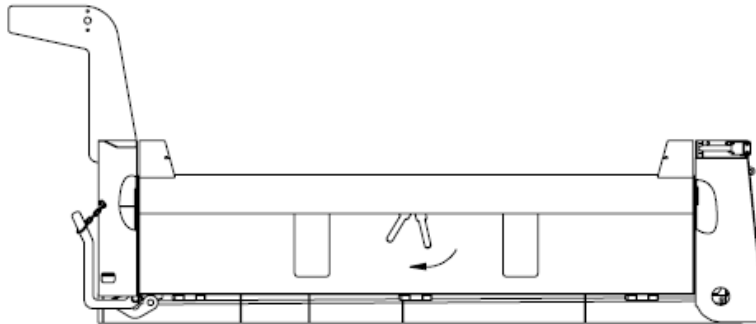

FIGURE 15
4. Rotate the side door handle forward to retract linkage pins as shown in Figure 15.